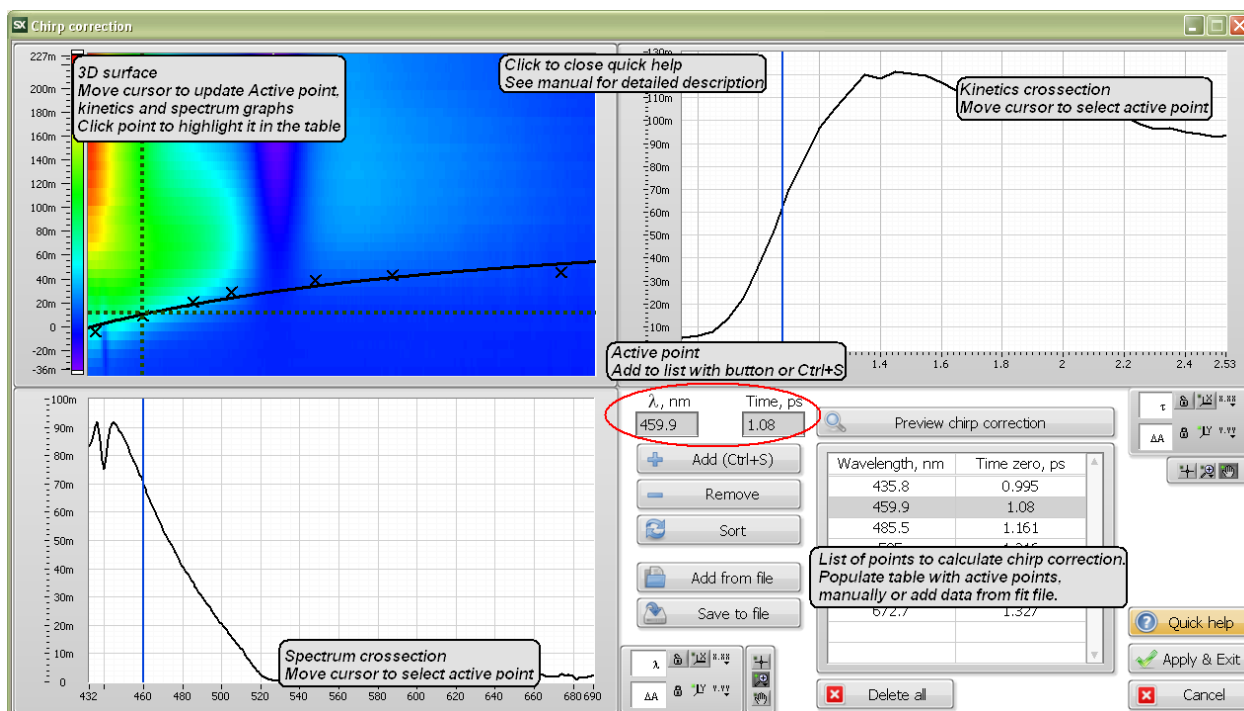

Figure 13 - Chirp correction window with quick help tips.
This function allows you to correct the 3D data surface for the chirp of the probe pulse. The main window of the chirp correction utility is shown on Figure 13. It is similar to Surface Xplorer main window. 3D surface, kinetic and spectrum panels with cursors function similarly.
- Button **Quick help** shows short help tips (Figure 13). Click anywhere within the screen to close help.